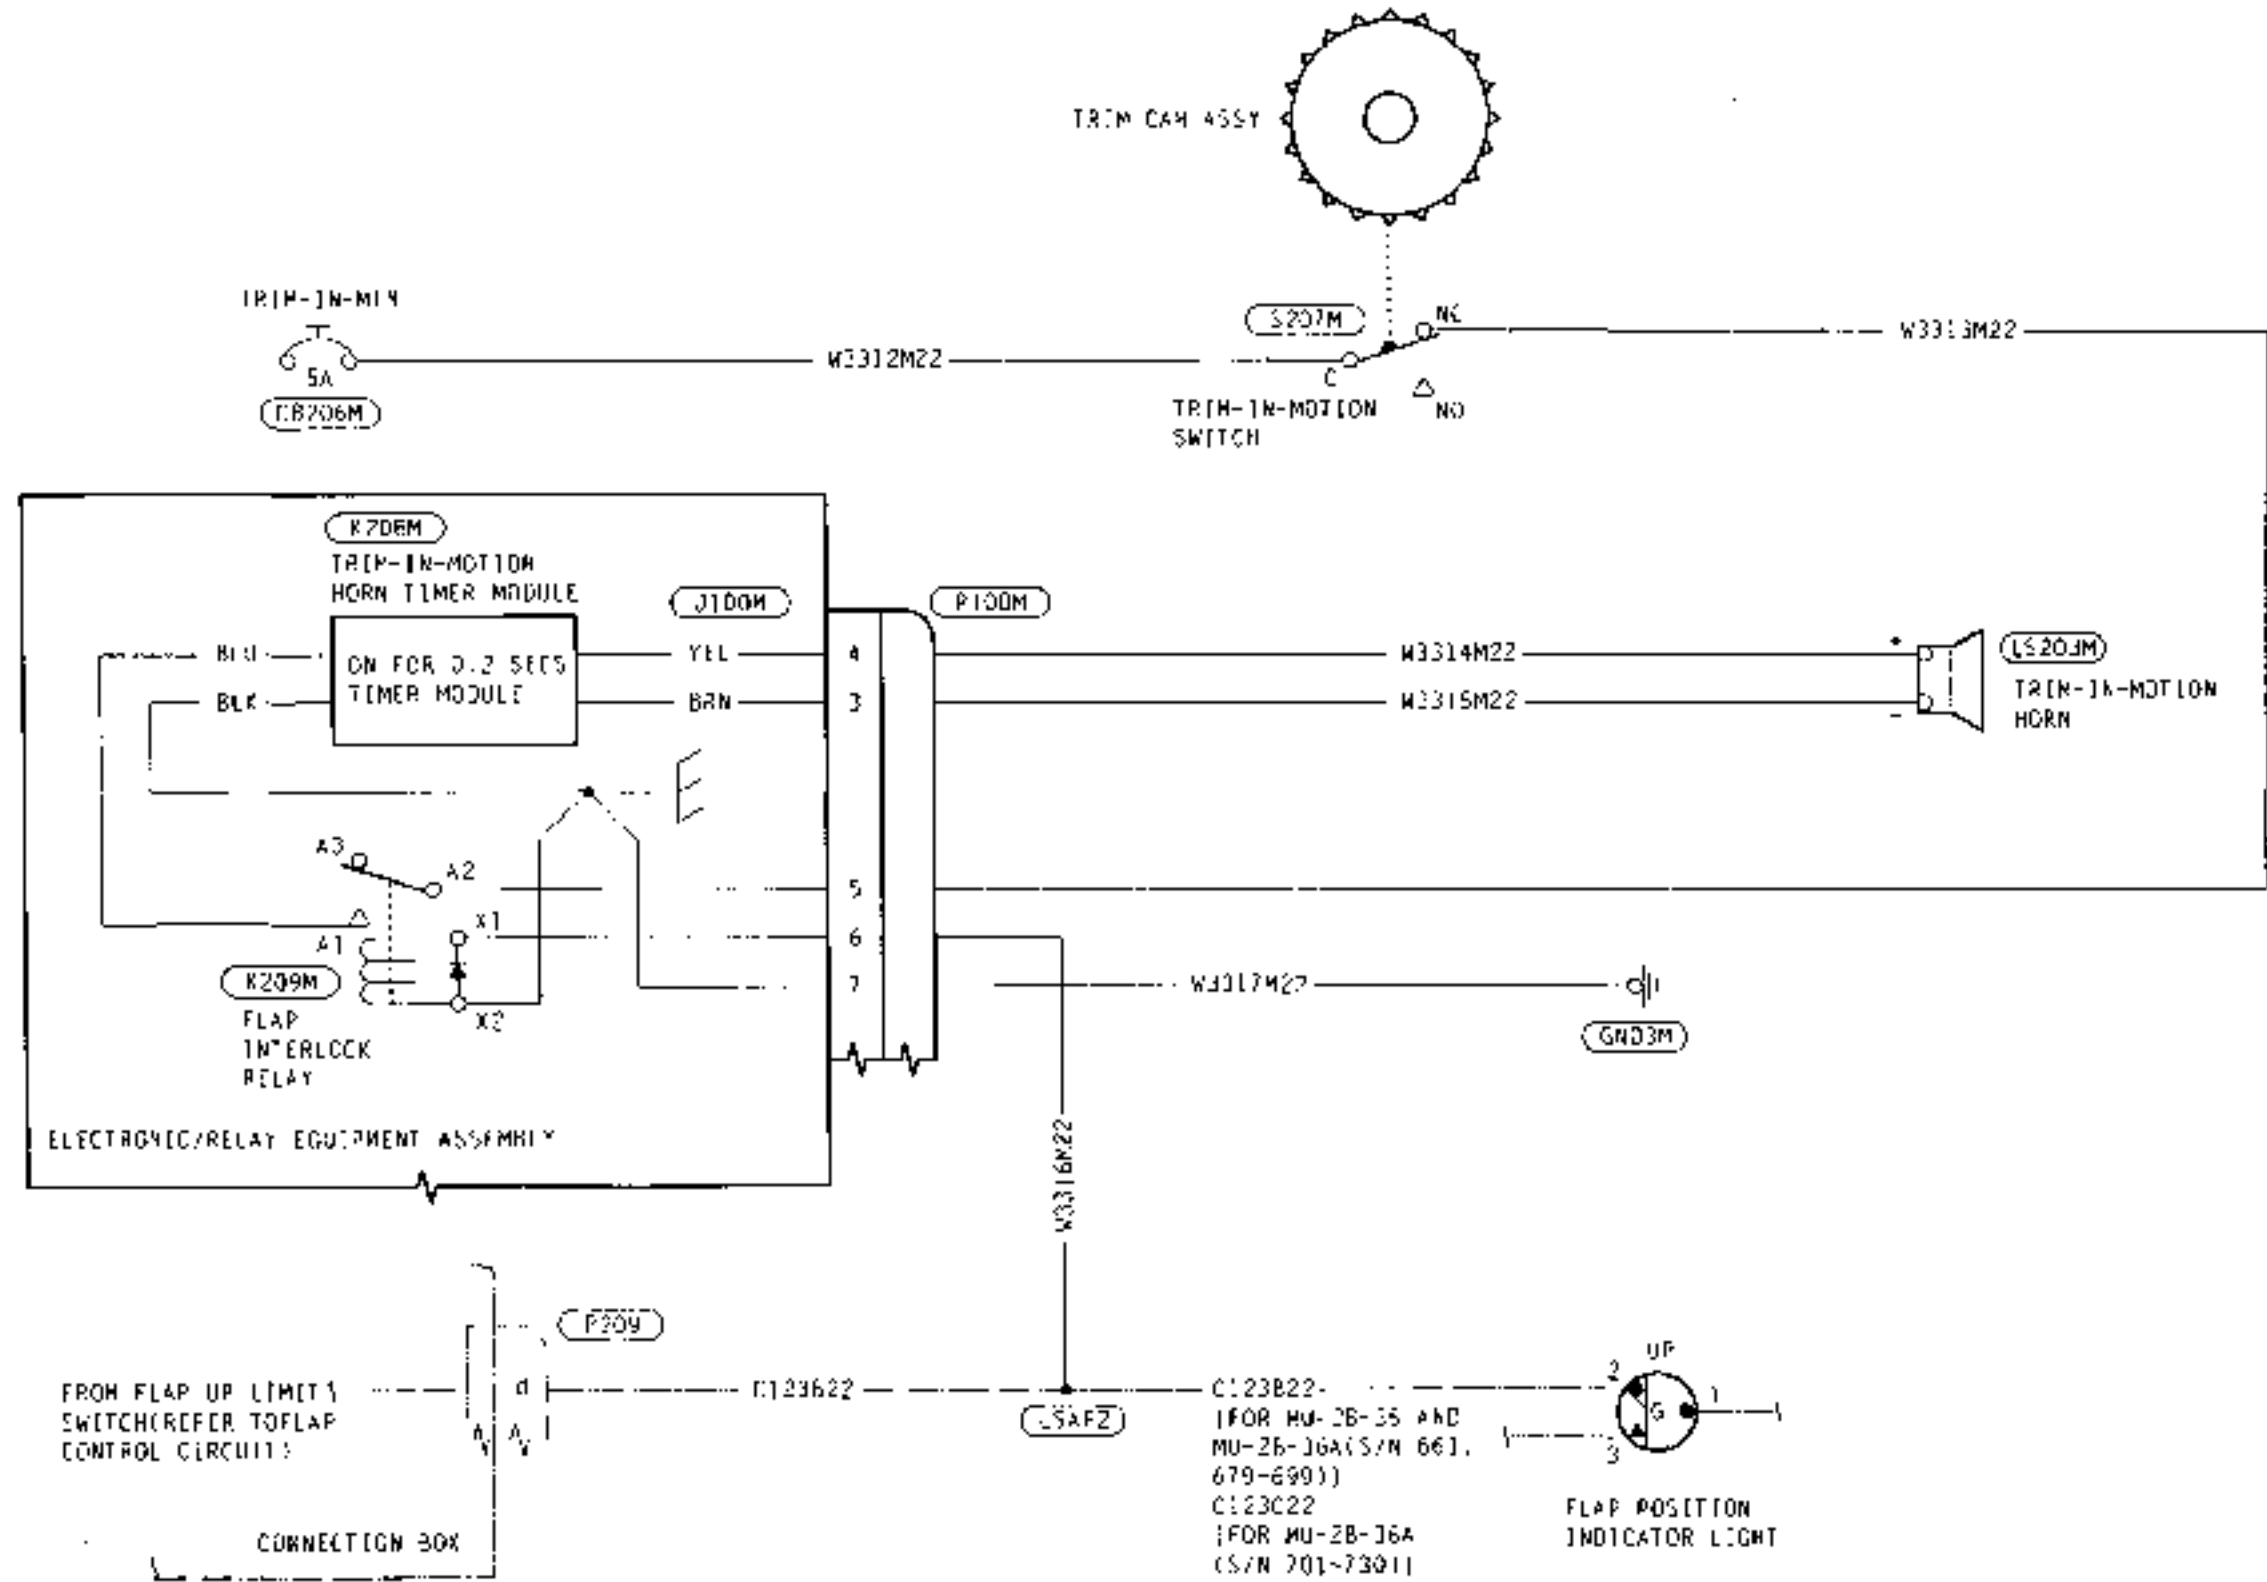

Fig 14-1 Trim-in-motion alert system
- (1) If the system fails to sound the alert horn.
- (d) Verify intermittent 28V electrical power is provided to pin 5 of the equipment assembly [PN:MU2-1203-()] when the elevator trim is run in the airplane nose up direction. (See Fig. 14-1)
- (2) If the alert horn sounds when the elevator trim moves in both the airplane nose up and nose down direction.
Fig 14-1 shows the wiring connections of the Trim-in-Motion Alert System.